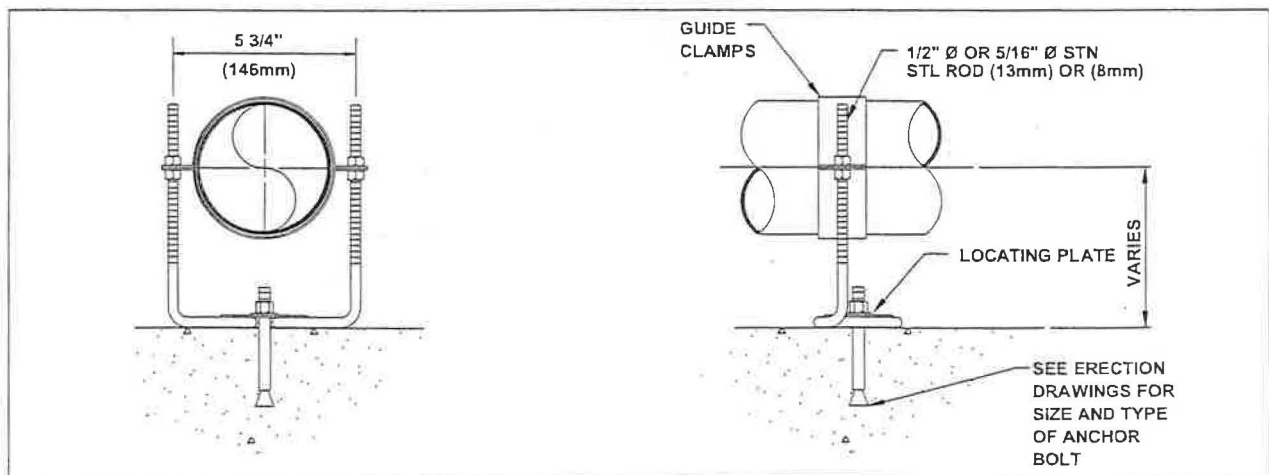

Figure 23
**Rod Type Guide Support** — (see Figure 23). This is the most commonly used support. It has 5/16" Ø or 1/2" Ø rods, has a 5-3/4" (146 mm) center to center rod distance and uses light weight, oversized non-gripping pipe clamp.